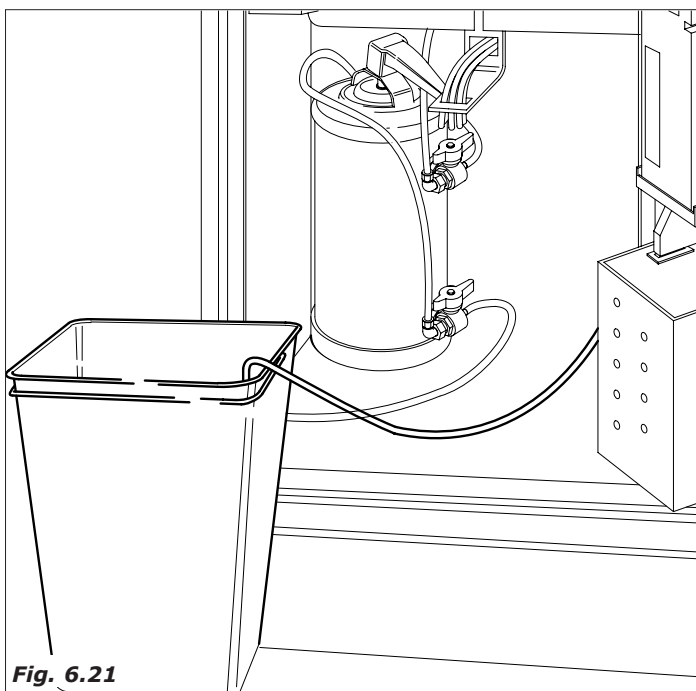

Fig. 6.21
- Position the reservoir drain hose in the liquid waste bin, in the (Fig.6.21).